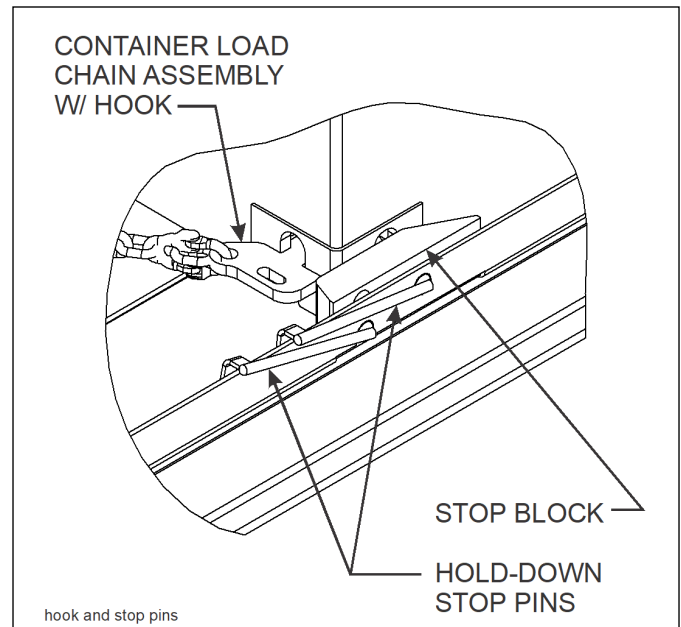

Figure 3-7: Container Load Chain and Stop Pins
- f. Install stop pins in lower front hole of blocks at front sides of trailer (**See Figures 3-7 and 3-8.**)
- h. Insert hold-down pins into rear holes of blocks at front sides of trailer (**See Figures 3-7 and 3-8.**)